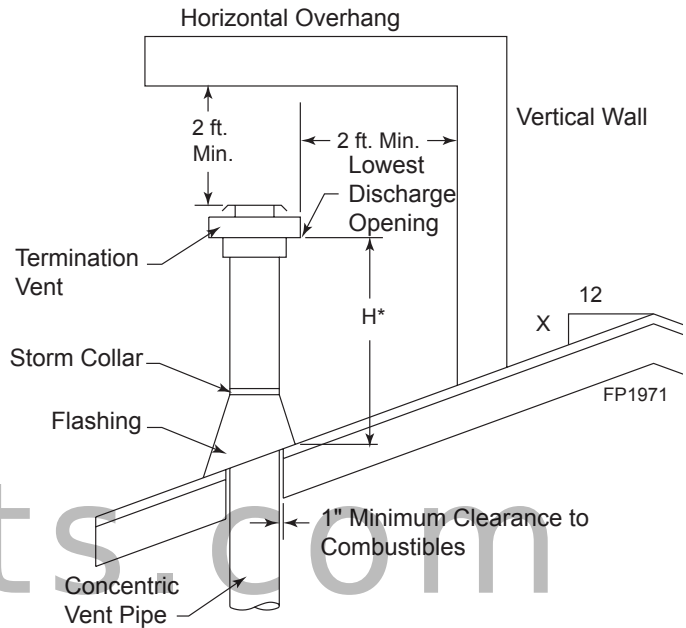

Figure 33 - Minimum Chimney Clearance
4. Using tin snips, cut the support box from the top corners down to the roof line and fold the resulting flaps over the roof sheathing. *Figure 33*. Apply a bead of non-hardening, mastic around the top edges of the support box to make a seal between the box and the roof. Nail in place with roofing nails. Remove any combustible material that might be inside the support box.